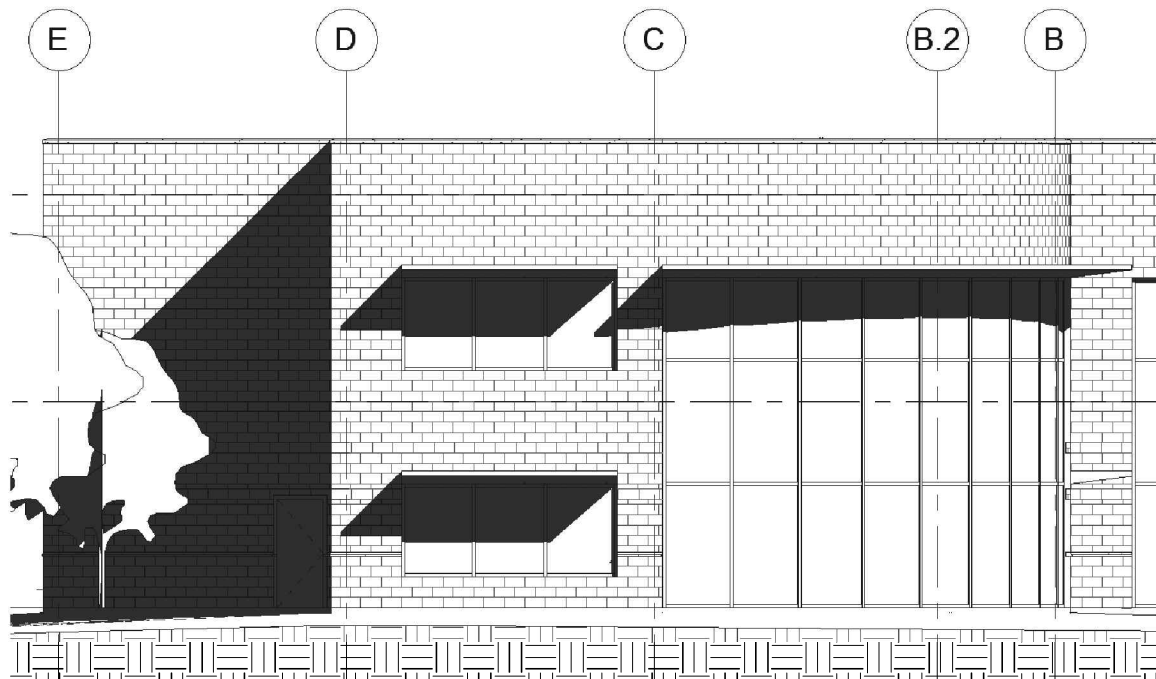

FIGURE 15-2.17 Sun shades added. Shadows turned on in 2D view
46. Add the two sun shades to the curtain walls between Grids D and C via the *Component* tool (Figure 15-2.17).